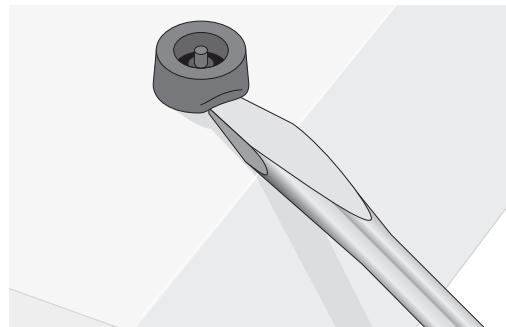

Figure 17 Removing the Protective Rubber Feet
2. Remove the feet with a standard flat-head screw driver, as shown in Figure 17.